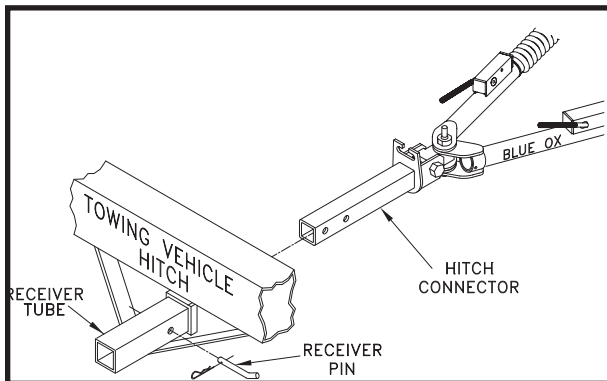

Figure 1
2. **NOTE: Do not wrap safety cables around legs or damage could occur to the rubber boots. If it is necessary to remove slack from the cables, wrap each once around their respective tow bar legs in front of the latch housing and then cross them under the tow bar.** (See Fig. 1)
1. Slide the hitch connector into the receiver tube of your towing vehicle hitch. Secure the receiver pin provided into one of the two holes of the hitch receiver. The inside hole of the receiver tube is most commonly used. (Figure 1) Blue Ox offers receiver and towbar lock sets (BX88101) (BX88177) that help prevent theft. Contact Blue Ox for more information.